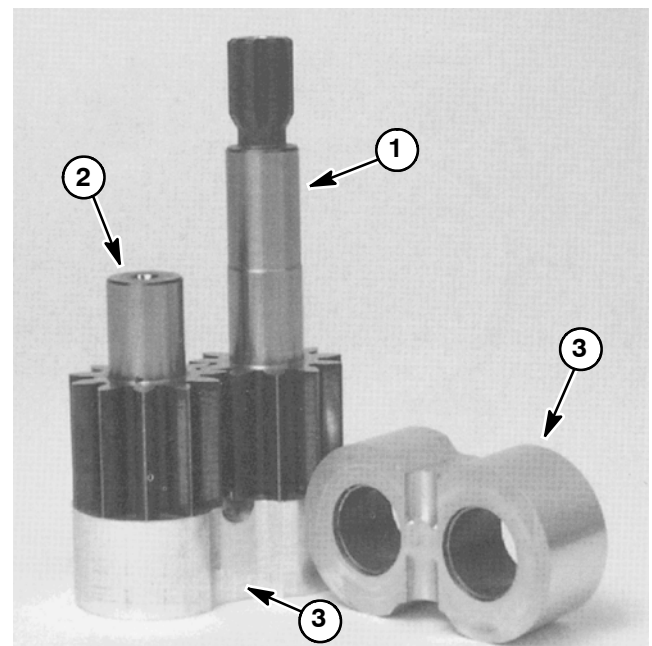

Figure 98
3. Inspect drive gear, idler gear and bearing blocks (Fig. 98) for the following: